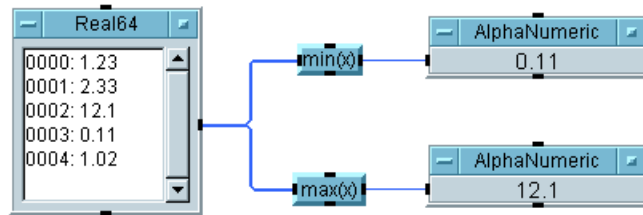

**Figure 8-6. A Program with Two Parallel Subthreads**
- **Subthreads** – A branch of a thread is called a subthread. When two subthreads begin at the same data output pin of the same object and there are no sequence or data lines between them, they are parallel subthreads. The program in Figure 8-6 shows two parallel subthreads branching from the data output pin of the Real64 constant object: